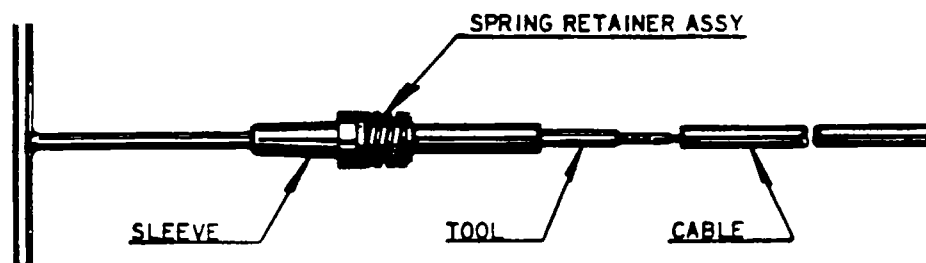

Figure 74-16. Using Assembly Tool
- C. Push the fabricated tool through insulating sleeve and spring retainer assembly as shown in Figure 74-16. Screw the cable terminal into the tool.